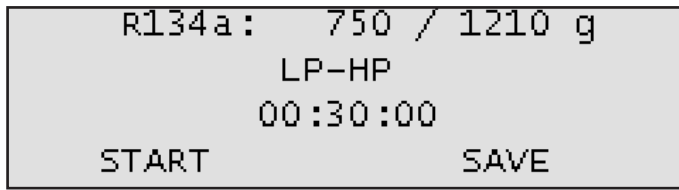

Fig. 15: Parameter adjustment
2. After the selection is made, a screen will appear showing the data for the process (Fig. 15).